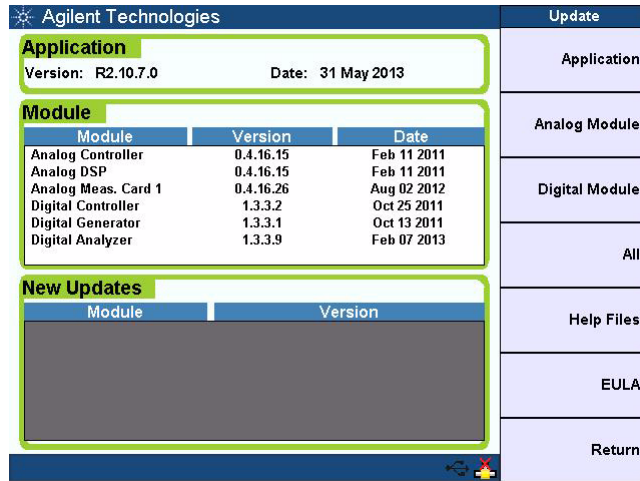

Figure 1-8 Update menu
- 2 From the system menu page, press **Update**. The Update menu is displayed as shown in Figure 1-8.